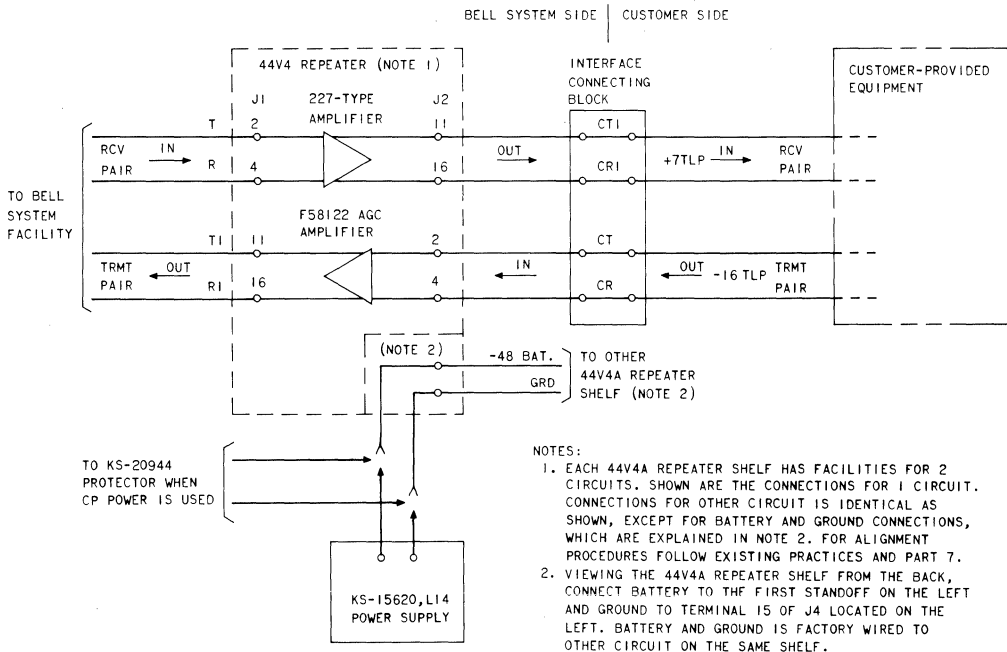

Fig. 2—Connections—Voice Connecting Arrangement C234W
6.01 For connecting information refer to Fig. 2, 4, and 5.